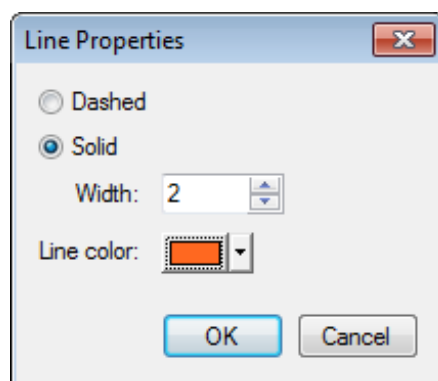

Figure 16 Line Properties dialog
7. On the *GIS* tab, click on the wide button to the right of *Lines* (the button to the left of the drop-down arrow button) to bring up the *Line Properties* dialog (Figure 16).